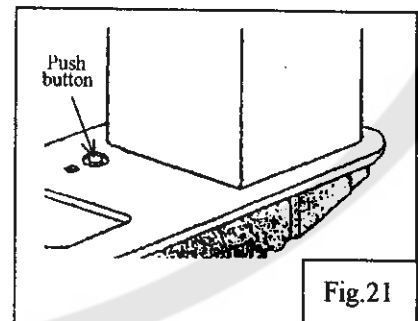
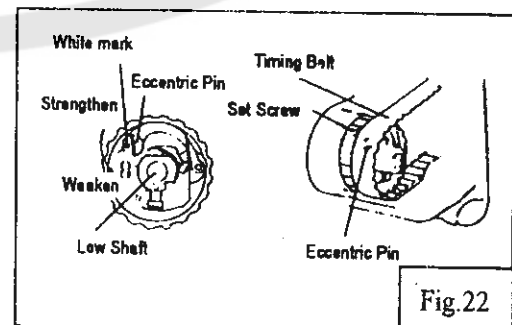

Fig.21
Fig.22
17. Safety clutch device (Fig.21, Fig.22)
2) How to set the safety clutch (Fig.22)
3) Force applied to the safety clutch (Fig.22)